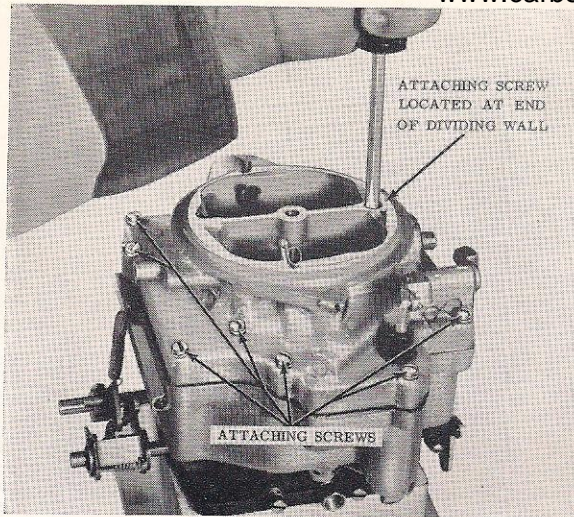

Figure 7-12
16. Remove 13 air horn attaching screws and lock washers. (Figure 7-12.)